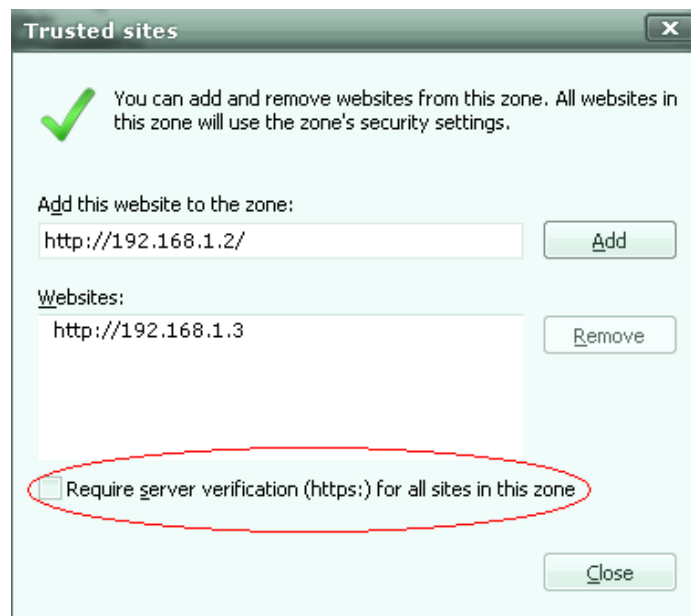

Fig. 5.3
3. If you use Windows XP, that would add IP address of Network Video in “trust sites” (as figure 5.3): “trust sites”, input IP address, such as: http://192.168.1.2, and canceling “Require server verification (http:) for all sites in this zone”. Click “Add”, “close”.